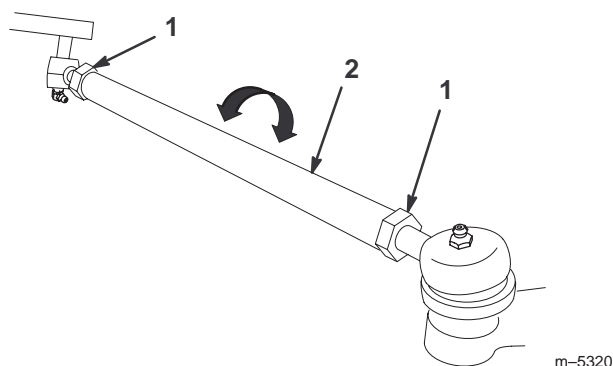

Figure 36
3. If the measurement does not fall within the specified range (refer to the dimensions and parameters at the beginning of this procedure), loosen the jam nuts at both ends of the tie rods (Fig. 36).